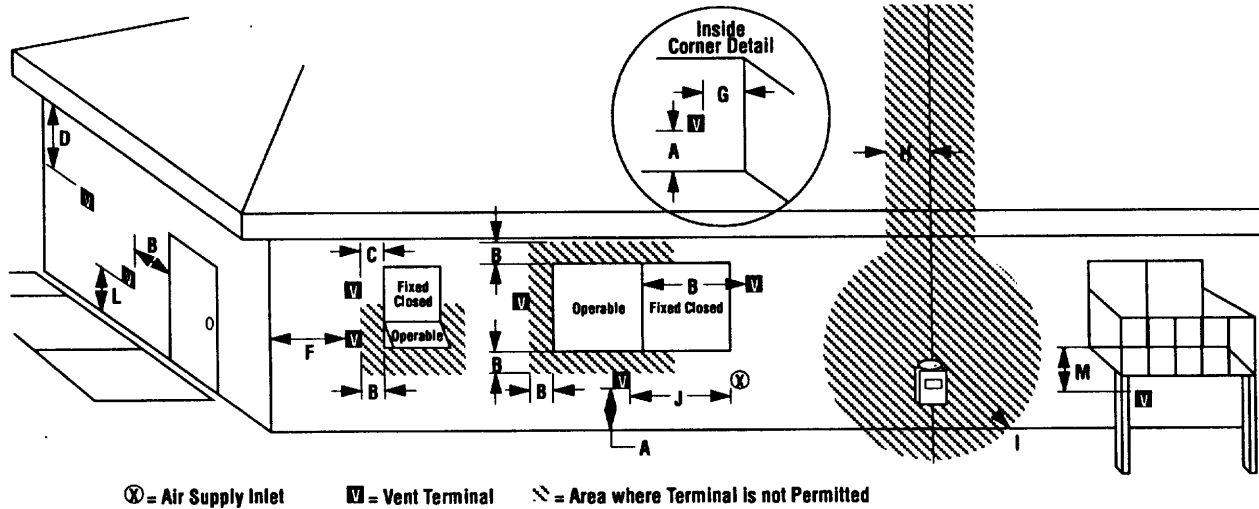

Figure 10. Vent Terminal Clearances - National Fuel Gas Code.
- MAINTAIN THE PROPER CLEARANCES TO THE TERMINATION CAP. SEE FIG. 10.